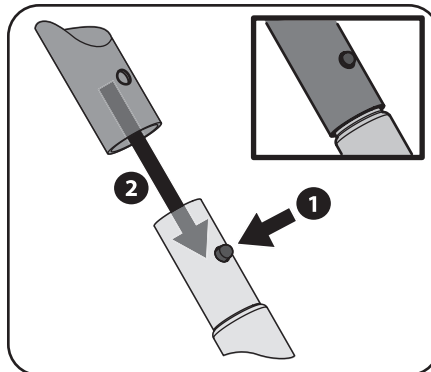

Figure 3-16
2. The frame pieces connect with a spring clip inserted into the hole of the connecting part to secure each piece in place. Press down on the spring clip button and slide it inside the connecting piece until it snaps into the hole. See Figure 3-16.